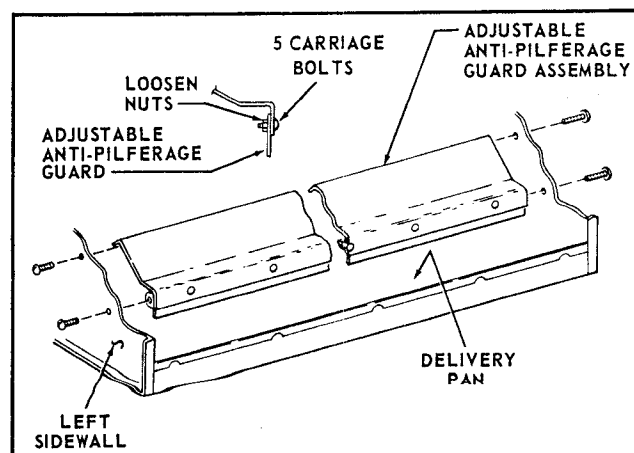

Figure 4-1. The Adjustable Anti-Pilferage Guard
H. Loosen the five No.8-32 Nuts with lockwashers across the rear bottom of the Anti-Pilferage Guard. Adjust the lower portion of the Anti-Pilferage Guard to allow about 1/8-inch of clearance between the bottom surface of the Anti-Pilferage Guard Assembly and the top of the thickest product to be vended. Be sure to adjust the Guard so that its bottom will be parallel to the surface of the Delivery Tray and tighten the five Nuts. See Figure 4-1.